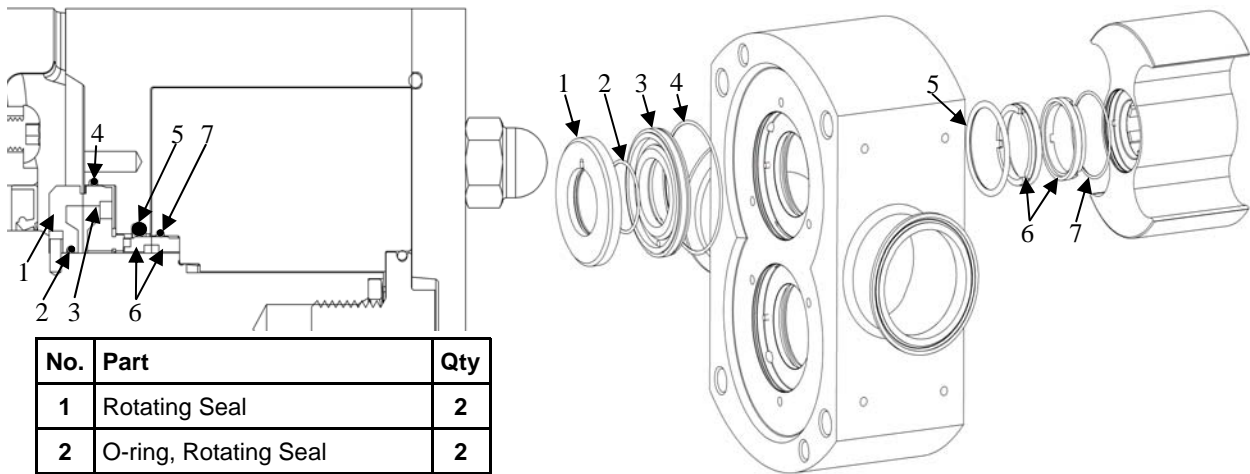

Figure 35: Double Mechanical Seal
*Disassembly:* The double mechanical seal option is shown in Figure 35. Using the o-ring tool provided by Ampco remove the mechanical seal and o-rings from the rotor and body. Slide the double mechanical seal base out of the body and remove the seal base o-ring. Slide the rotating seal from the shaft and remove the rotating seal o-ring. Inspect the seals for chipping, scratches, or any evidence of cracks on the seal face. If damaged, replace o-rings. If any of the seals are damaged do not re-use them.